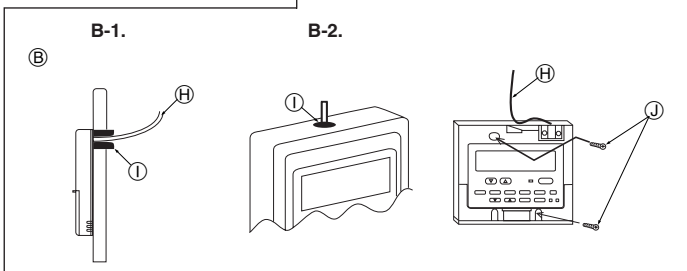

Fig. 6-3
① Remote controller profile
② Required clearances surrounding the remote controller
③ Installation pitch
(2) Seal the service entrance for the remote controller cord with putty to prevent possible invasion of dew drops, water, cockroaches or worms. (Fig. 6-3)
① For installation in the switch box:
② For direct installation on the wall select one of the following: